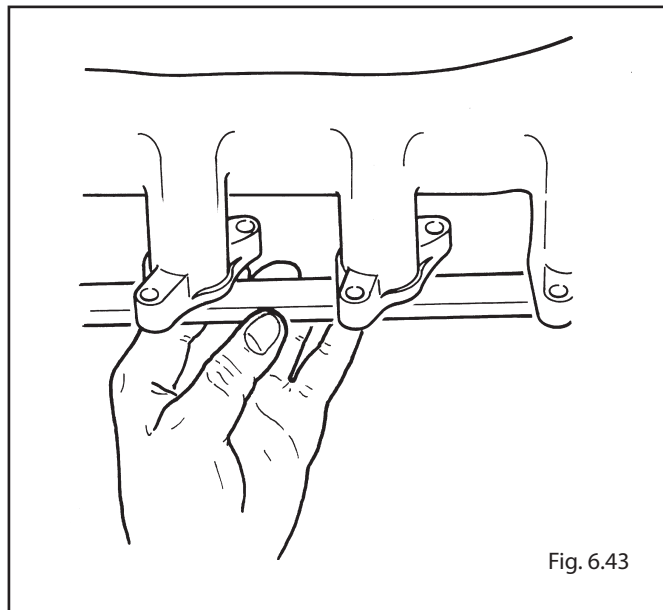

Fig. 6.43
6.31 EXHAUST MANIFOLD (FIG. 6.43)